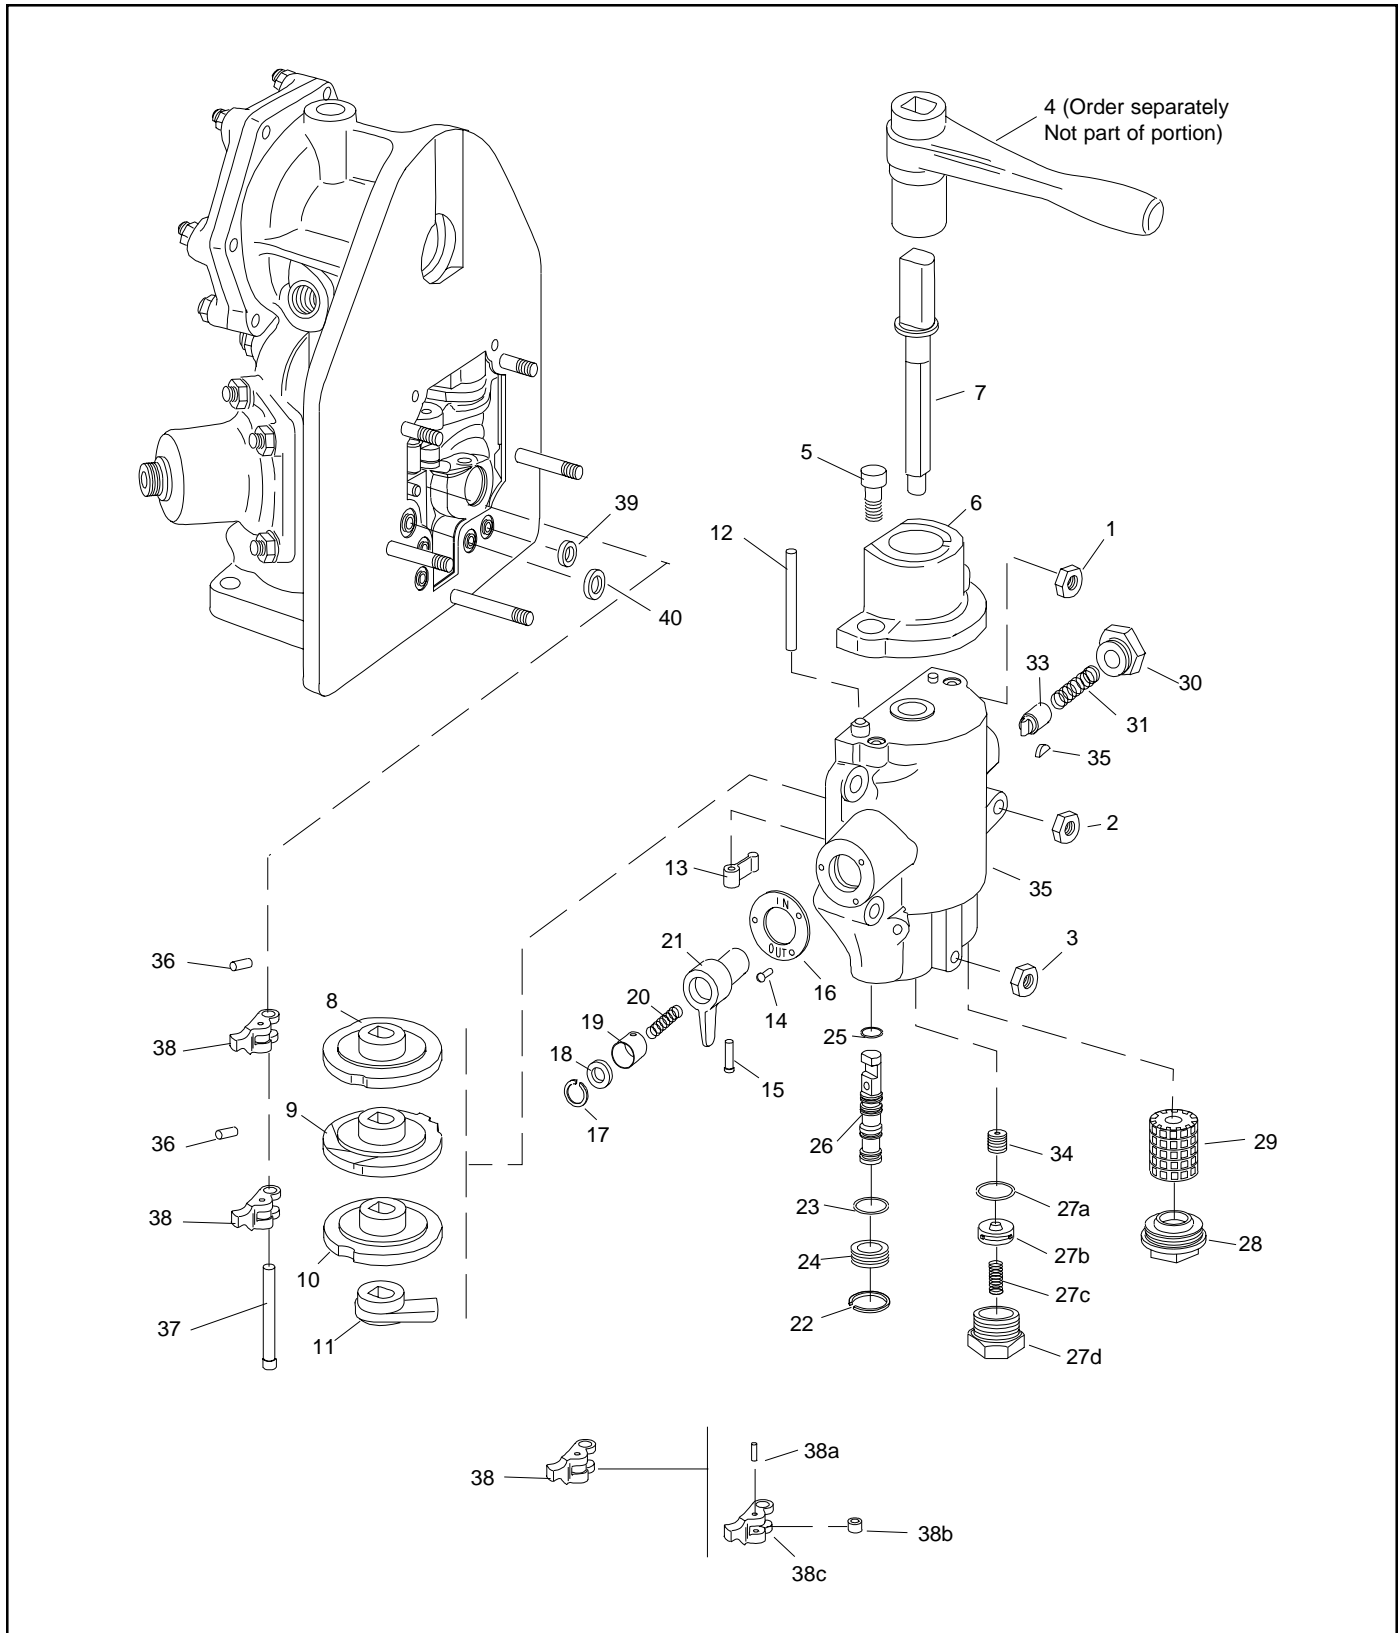

Figure 3 - 26-B-1 Brake Valve
7.2 DISASSEMBLY (Refer to Figures 3, 4 and 5)
7.2.1 Referring to Figure 3, with the brake valve handle (4) in the "Handle-Off" position, remove the handle from the brake valve.
7.2.3 Referring to Figure 3, remove the three 3/8" machine screws (14) which secure the name plate (16) to the cam housing (35), then remove the name plate (16) and handle assembly.